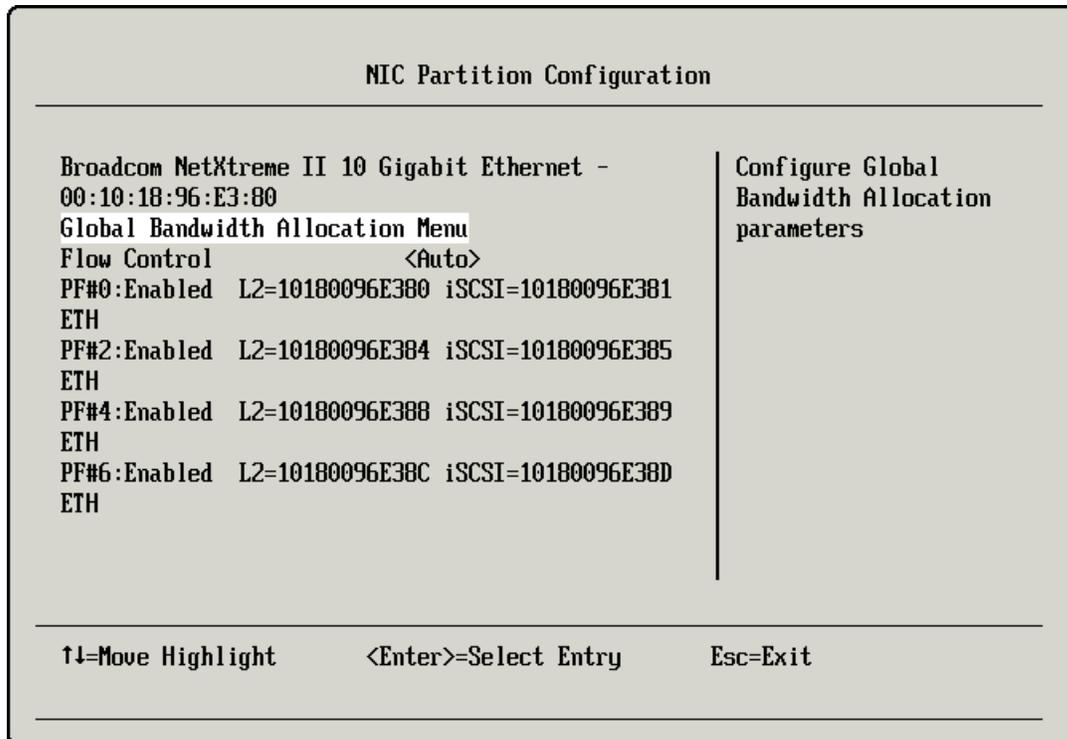

Figure 10-19 NIC Partition Configuration panel
9. In the NIC Partition Configuration panel (Figure 10-19), identify the MAC addresses of all four NIC partitions: